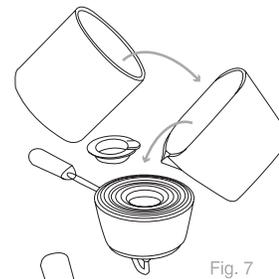

Fig. 7
3. Pour up to 330ml of paint into the Edger Head using the Easy Pour Jug (Fig. 7).